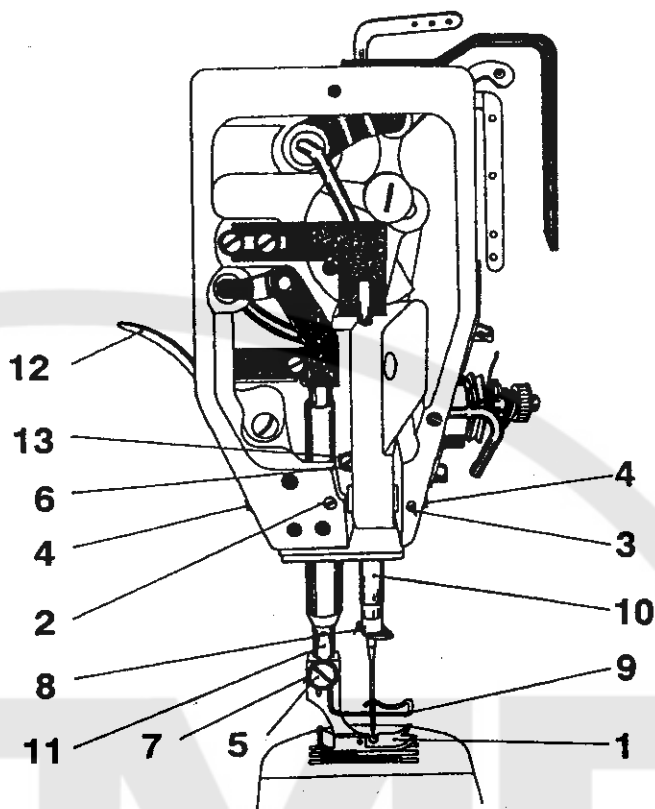

Figure 4
#### 5. To lift the presser foot (Fig. 4)
#### 7. To insert the needle (Fig. 4)
**8. To adjust in height the needle bar (Fig. 4)**
#### 14. To exchange the presser foot (Fig. 4)
#### 16. To adjust the needle punches longitudinally into the centre of the slot of the throat plate (Fig. 4)